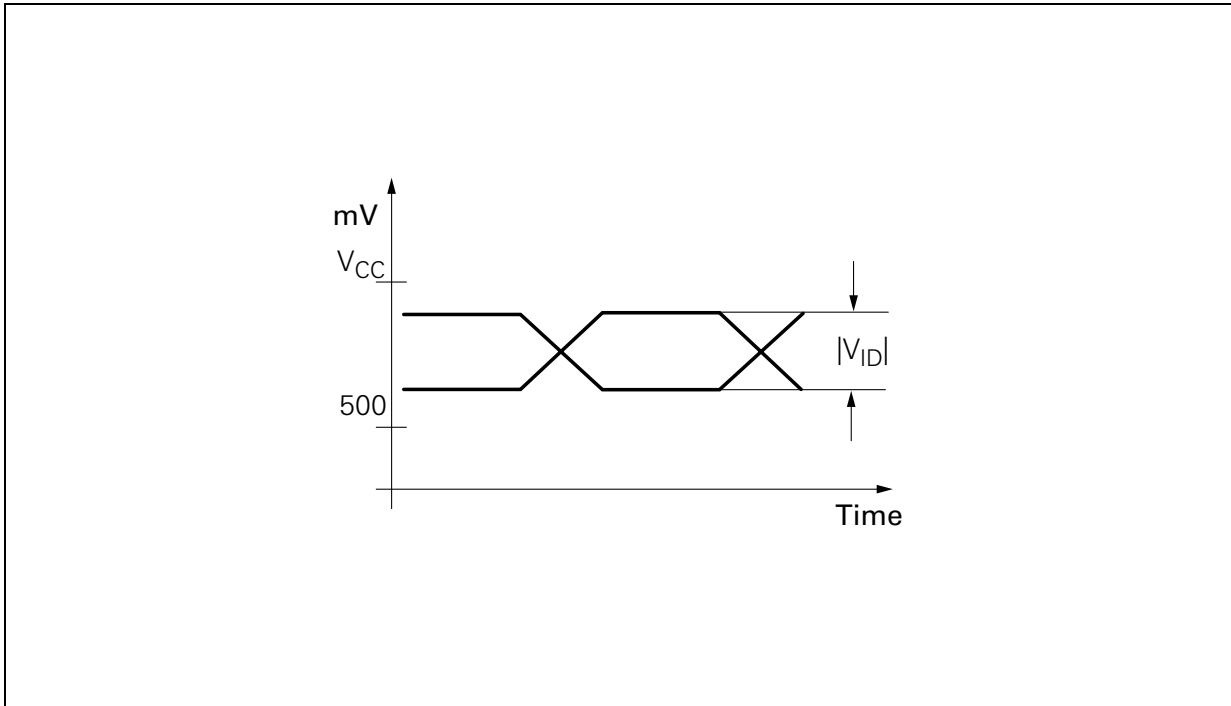

Figure 5 Input Level Diagram
- 4) Level diagram: see **Figure 5**